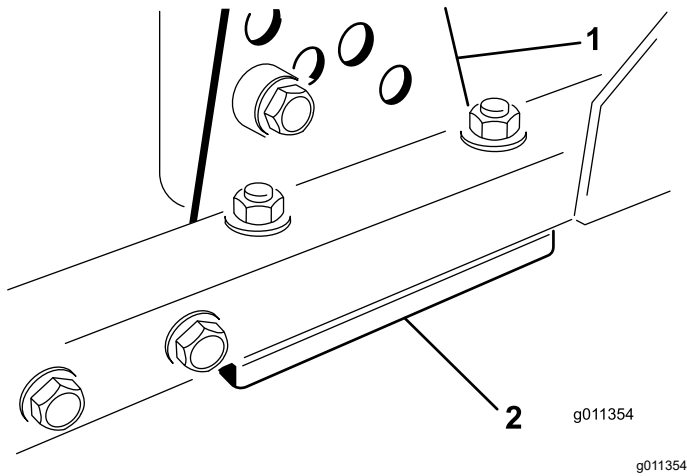

Figure 86
- Remove the height-of-cut bracket, (front, left, or right) from the cutting-unit frame (Figure 86).
- Insert 1.5 mm (0.060 inch) shims and/or 0.7 mm (0.030 inch) shims between the cutting-unit frame and bracket to achieve the desired height setting (Figure 86).